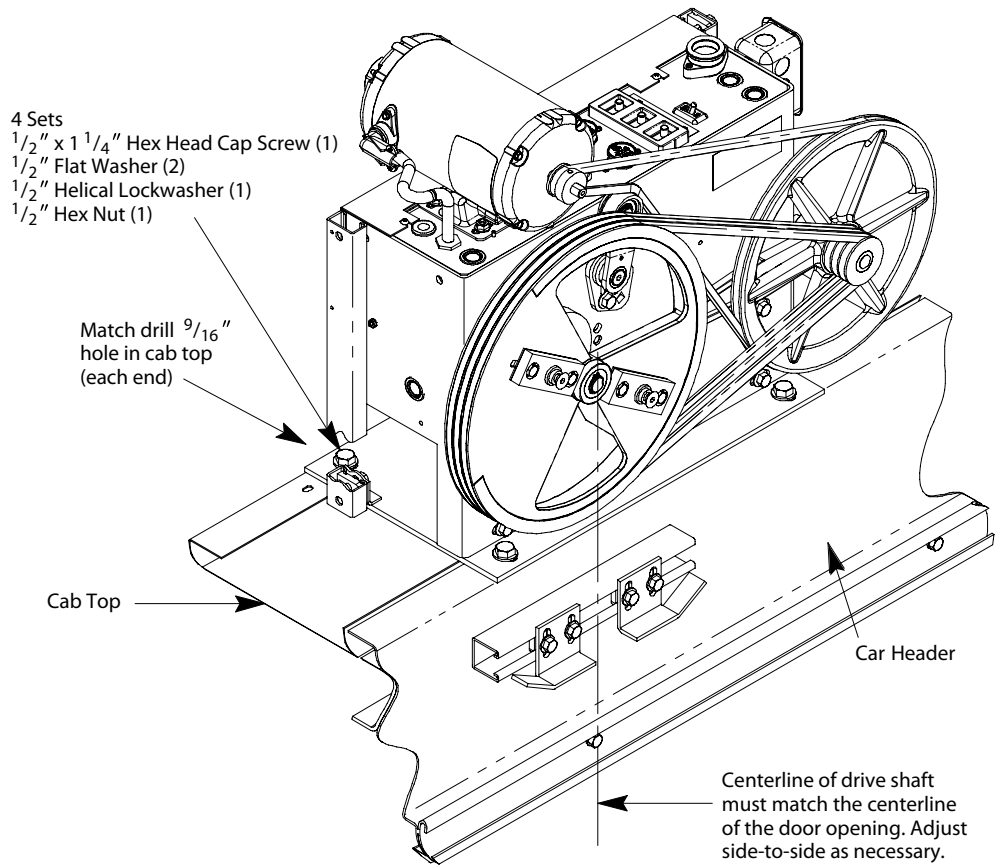

Figure 7 - Mounting the Door Operator (1 of 3)
3. Center the front slots of the mounting base with the slots in the middle of the car header. Install two sets of mounting hardware, and loosely tighten. See Figure 7 on page 16.
5. Match the vertical center line of the drive shaft with the center line of the door opening by adjusting the door operator sideways. Tighten the front mounting hardware. See Figure 7 on page 16 and Figure 9 on page 18.
14. Match drill 9/16 holes in the car top with the slots in the door operator mounting base. See Figure 7.